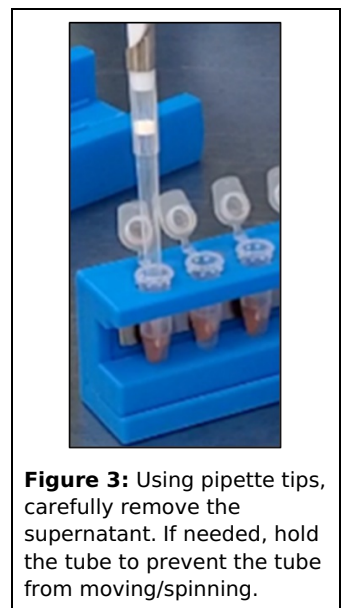

Figure 3: Using pipette tips, carefully remove the supernatant. If needed, hold the tube to prevent the tube from moving/spinning.
9. Using a pipette, discard the supernatant without disturbing the beads (Figure 3). Remove the tube rack from the magnetic stand.